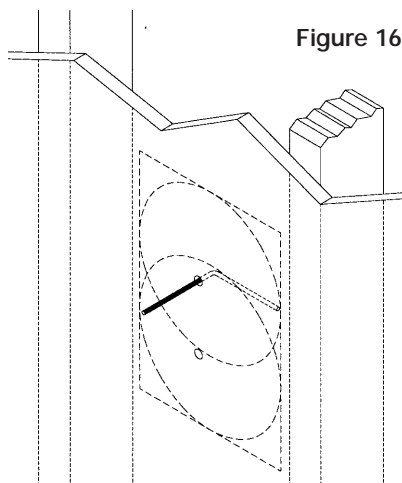

Figure 16
1. Drill a 1/8" pilot hole just barely through the wallboard or dry wall (1/2" to 5/8" deep in most homes) about an inch below the center of your proposed speaker location (an inch to the side if you are mounting the speaker horizontally). BE VERY CAREFUL NOT TO DRILL THROUGH EXISTING WIRES, PIPES, OR STRUCTURE. If you feel any extra resistance as you are drilling, STOP. Cut a piece of coat hanger equal to the width of the bracket. Bend the wire in half creating a right angle. Poke the "L-shaped" wire into the pilot hole and turn it in a complete circle. If it turns freely, repeat the procedure from a hole about an inch above the center of your proposed speaker location (See Figure 16).